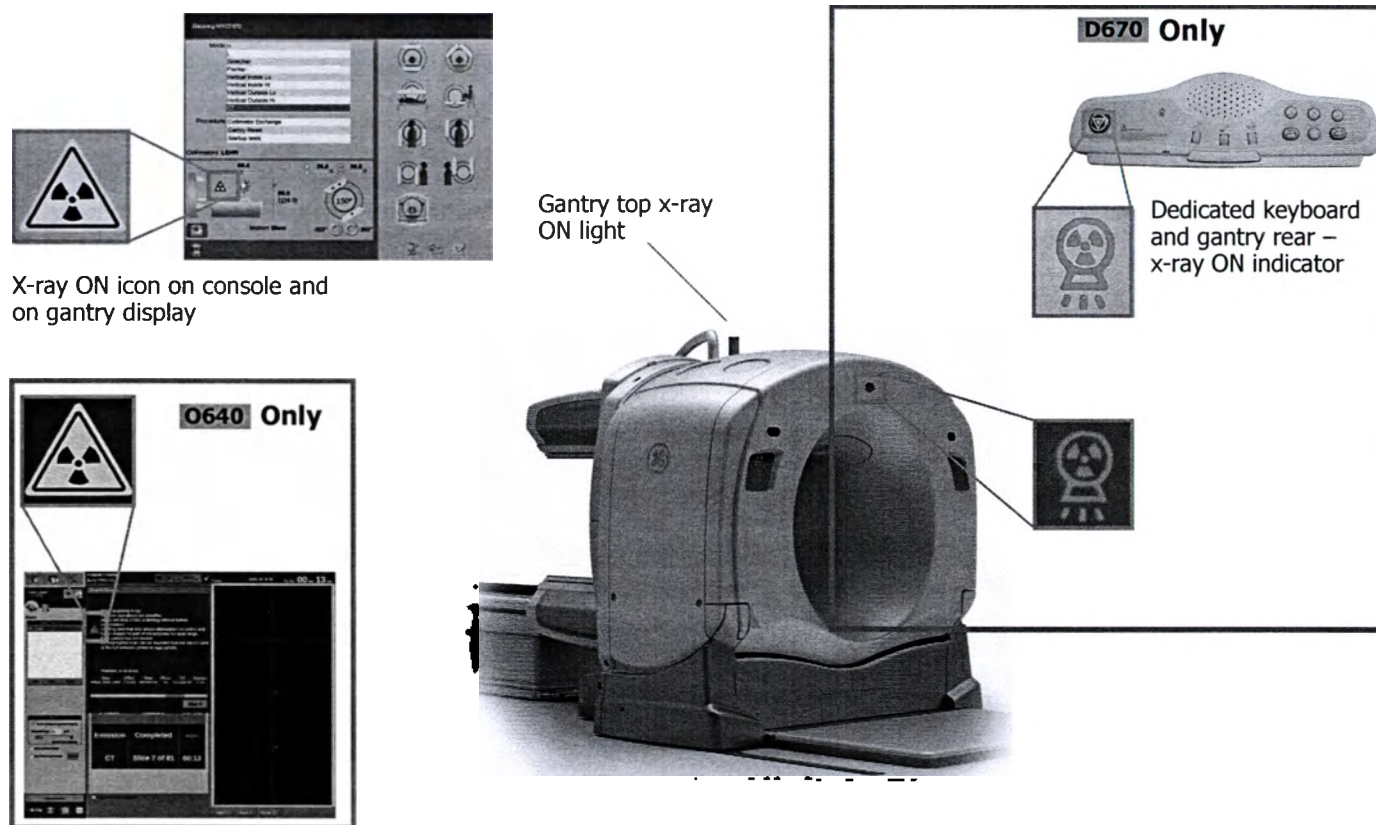

Figure 3-7: Location of X-ray ON Indicators
- Visual x-ray indicators light up whenever there is danger of x-ray exposure (see Figure 3-7, p.3-16), including: